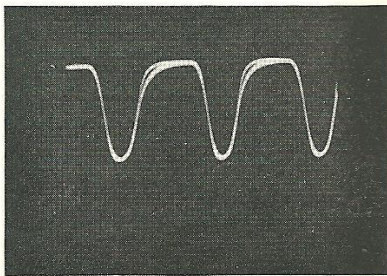

Fig. 84. Pin No. 1 V209 (Horizontal) P-P—2V.
5. If at step No. 3 C226 is okay, observe waveform at pin No. 1 of V209. This waveform should be approximately the same as Fig. 84.